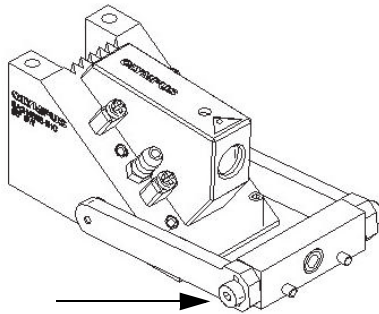

Figure 2-29 The screw that holds the yoke parts together
6. If it is necessary to remove the yoke from the wedge, use a hexagonal key to remove the screw (on the side of the yoke) that holds the yoke parts together (see Figure 2-29 on page 46).